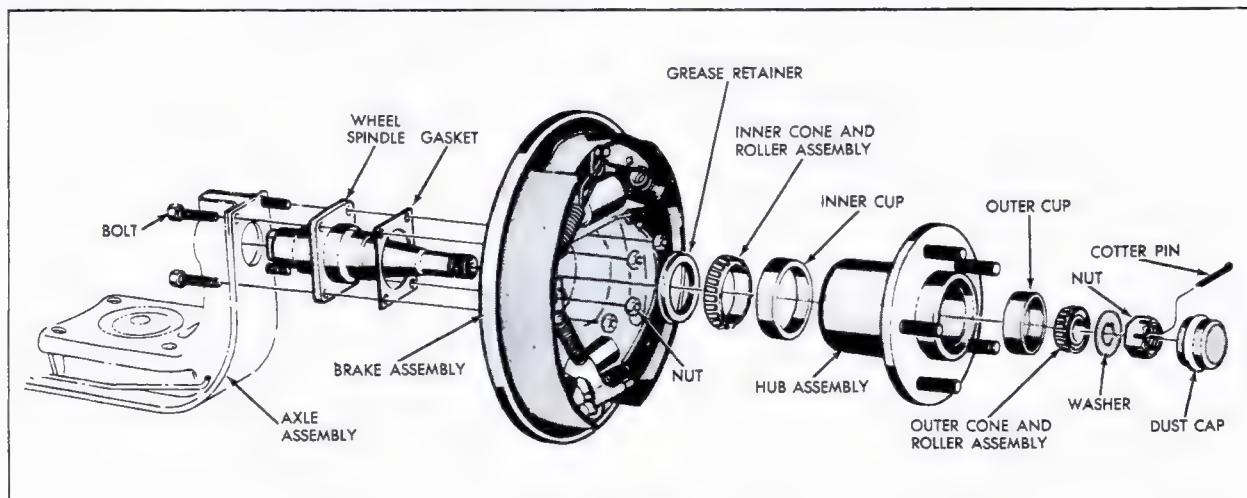

Fig. 4-35 Rear Wheel Disassembled
3. Remove dust cap, cotter pin, spindle nut, washer and outer cone and roller assembly, Fig. 4-35.
39. Rear Wheel Bearings and Grease Retainer (Fig. 4-35)**a. Removal**